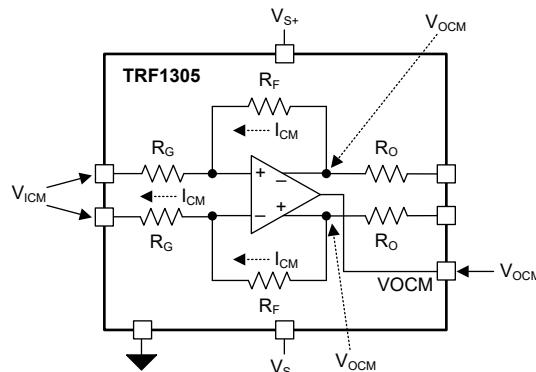

図 8-4. Net DC Current Flow When Input and Output Common-Mode Voltages are not Equal
The TRF1305x1 accepts a wide range of input dc common-mode (CM) voltages. Take into consideration the dc current loading of the source when the TRF1305x1 is dc-coupled at the input. 図 8-4 shows that when the input CM voltage, V_{ICM} , is different than the output CM voltage, V_{OCM} , a net dc current flow from or to the source occurs. 式 1 shows the relationship that the source or sink current, I_{CM} , has with the input and output CM voltages: